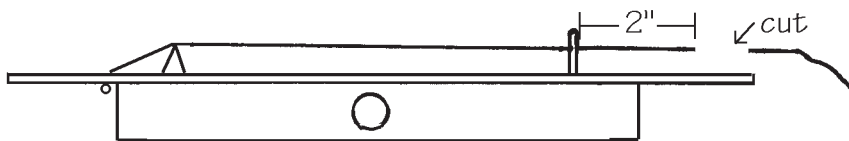

FIG. 4
- ___4. Beginning with the longest string on the instrument, take one .025” string and poke it through the first string hole, from the backside of the instrument, pulling it all the way until the ball end contacts the wood underneath. Stretch it across the instrument to the farthest tuning pin and clip off the excess length of wire so that it measures only about 2 inches beyond the tuning pin. (fig. 4)